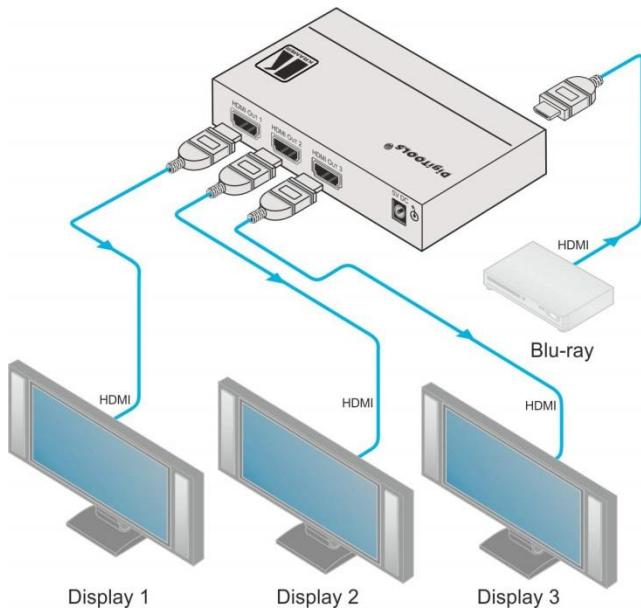

Figure 2: Connecting the VM-3HN 1:3 HDMI DA
Connect the **VM-3HN** as illustrated in the example in Figure 2:
3. Connect the 5V DC power adapter to the power socket unit and then connect the adapter to the mains electricity (not shown in Figure 2).